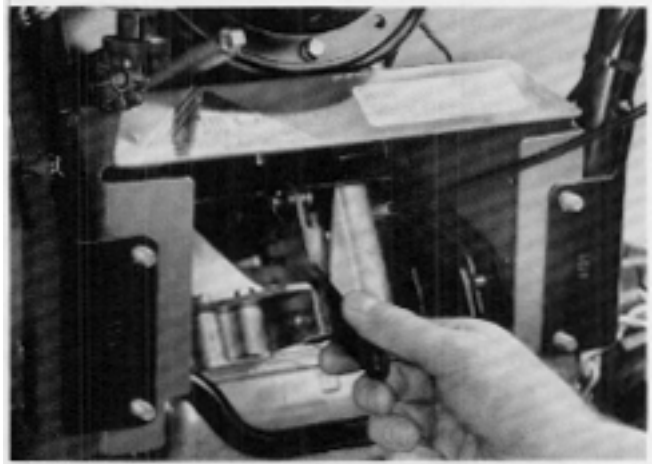

Figure 87
10. Place the transmission in second gear by pushing the rear of the bellcrank to the top of its travel, then pulling down 2 clicks. See Figure 87.